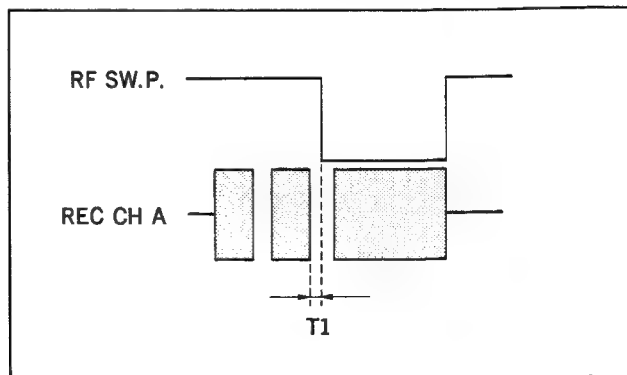

Fig. 6-10-2 Switching position check (REC A) ②
4. Use the REC head PB harness in the same condition as section 6-9, item 1.
6. Check the error T1 of the wave shape indicated in the figure to satisfy specifications 1. (See Fig. 6-10-2)
- 1. If specifications 1 is not satisfied in the check of section 6-10-1, perform the adjustment following. (See Fig. 6-10-2.)